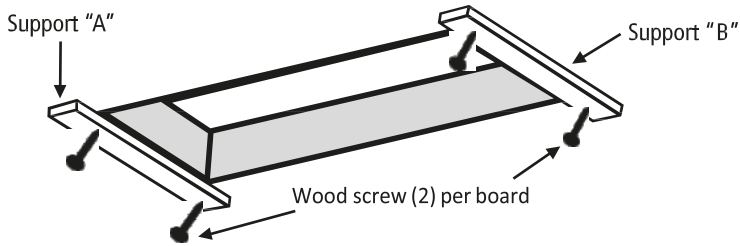

FIGURE 4: View from below
A. Attach temporary supports “A” and “B” using 2 ½” wood screws as described below and shown in figures 4 and 5.